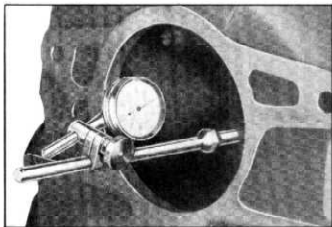

Fig. 59—Checking Runout of Transmission Pilot Hole
2. Install indicator extension in a crankshaft stud hole, attach indicator to extension and check pilot hole runout (fig. 59). This runout should not exceed .008".